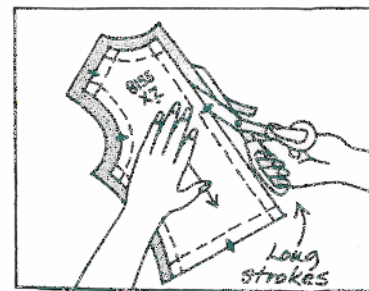

Figure 12
- When using scissors or shears make long smooth cuts. (Figure 12)
as you cut with the other. (Figure 12) Do not lift fabric off the table or cutting surface while cutting.